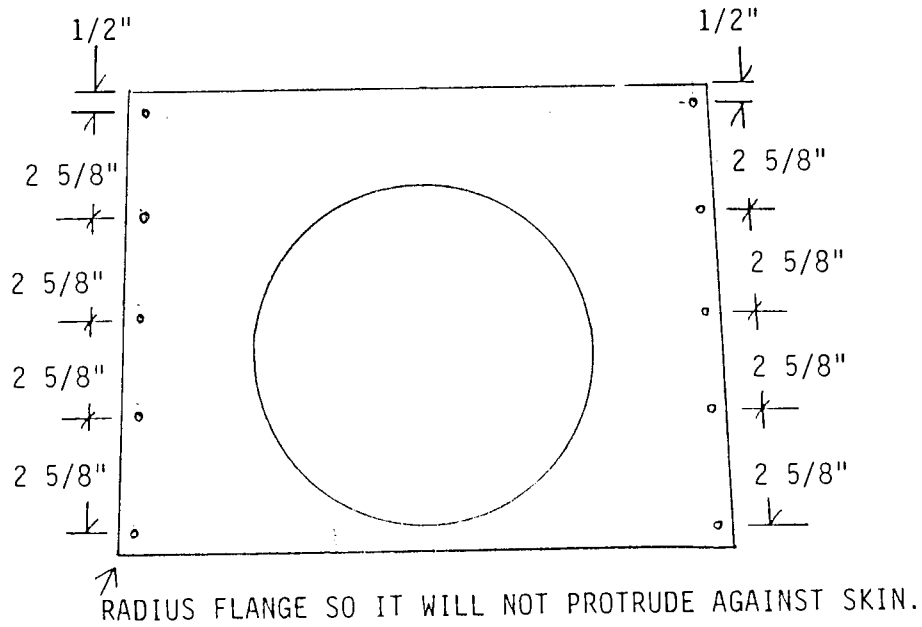

FIGURE 011-017
17. Position the S-5 bulkhead on the aft side of the S-5 (1" vertical truss tubes) so it is almost touching the side truss top gusset plates. Center the bulkhead on the 1" tubes and mark off and rivet (5) #30 stainless steel pop rivets to each side. See Figure 011-017.